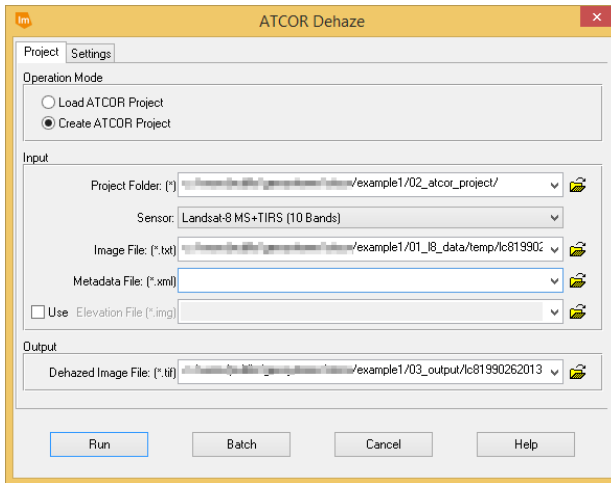

Figure 3: ATCOR Dehaze Project Tab.
4. Specify the following options on the **Project Tab** of the dialog (Figure 3):
24. Specify the following options on the **Project Tab** of the dialog (Figure 3):